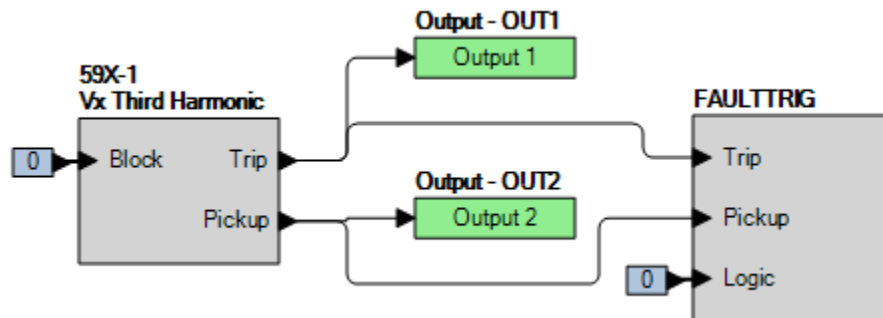

Figure 60-5. BESTLogicPlus Settings (Vx Third Harmonic Mode)
- Step 2: Use *BESTCOMSPPlus* to configure the *BESTLogicPlus* programmable logic shown in Figure 60-5.
- Step 4: Prepare to monitor the 59X-1 function operation. Operation can be verified by monitoring OUT2 (see Figure 60-5).